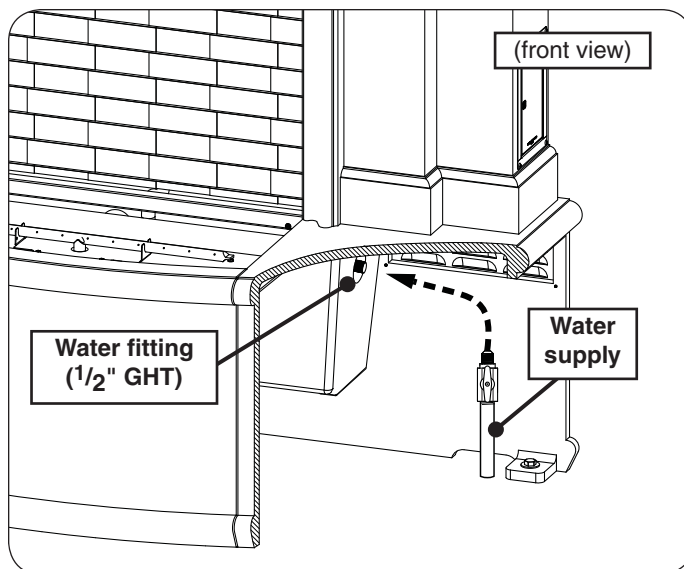

Fig. 24-3 Connect water supply (if applicable)
2. Plumb the water supply to the  $\frac{1}{2}$ " GHT fitting (see Fig. 24-3).